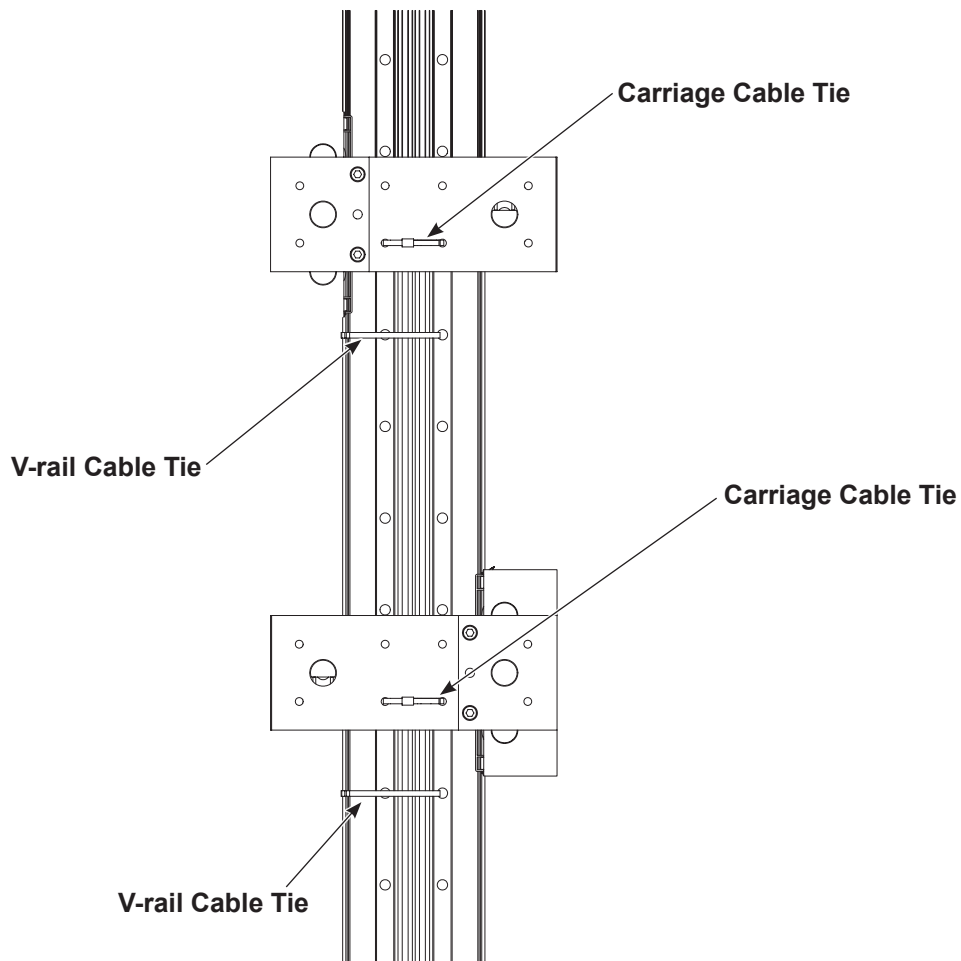
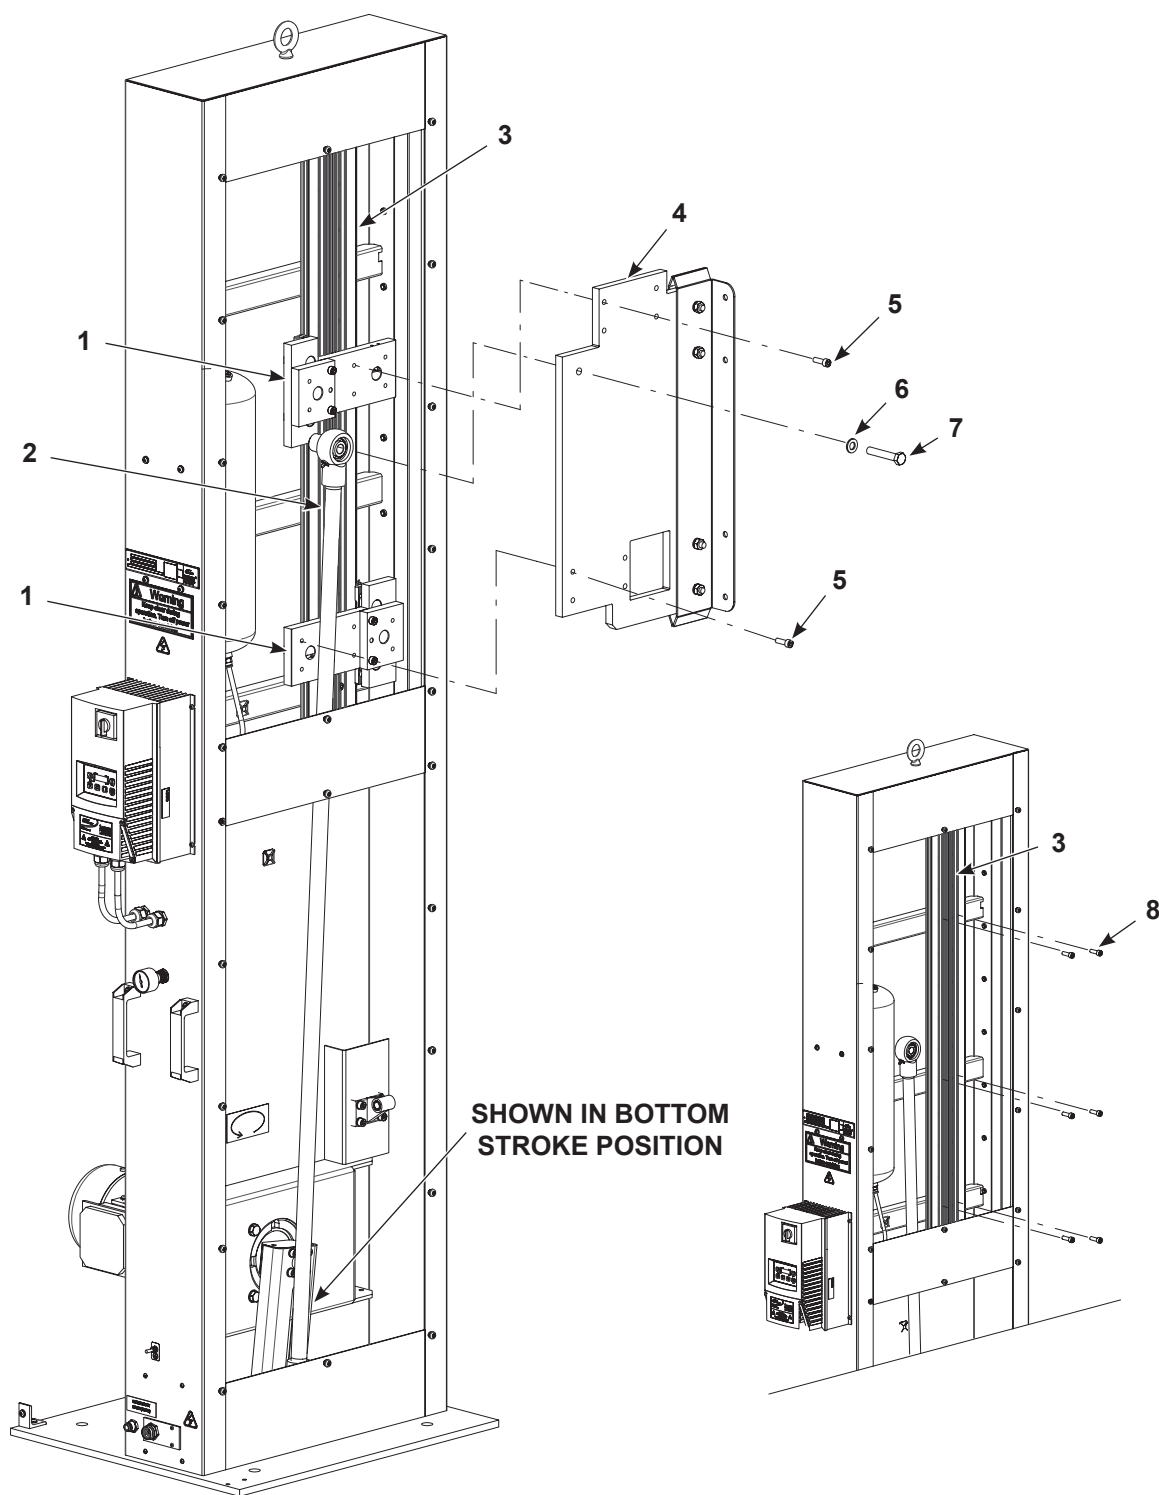

Figure 16 Removing Cable Ties from Carriage Assembly
Figure 17 Installing the Carriage and Gun Mounting Plate Assemblies
1. See Figure 16 and Figure 17. Secure the V-rail to the oscillator using the V-rail screws (8).
3. Cut and remove the carriage cable ties and install the gun mounting plate assembly (4) onto the upper and lower carriages (1) using the gun plate screws (5).
5. Apply grease to the threads of the connecting rod screw (7). Install the connecting rod (2) using the connection rod washer (6) and screw (7). Torque to 90-100 ft lbs.